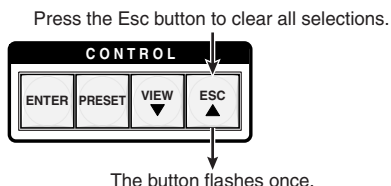

Figure 3-3 — Clear all selections
1. Press and release the Esc button (figure 3-3).